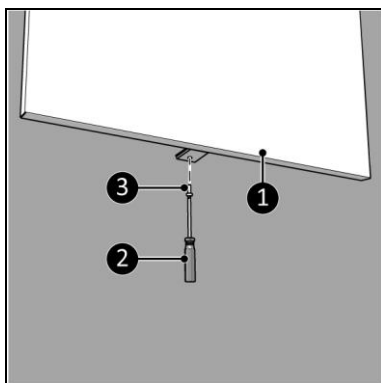

Figure 10
13. Screw and tighten the device (Figure 10, pos. 1) with a small screw (Figure 10, pos. 3) to the wall bracket using a Phillips screwdriver (Figure 10, pos. 2).